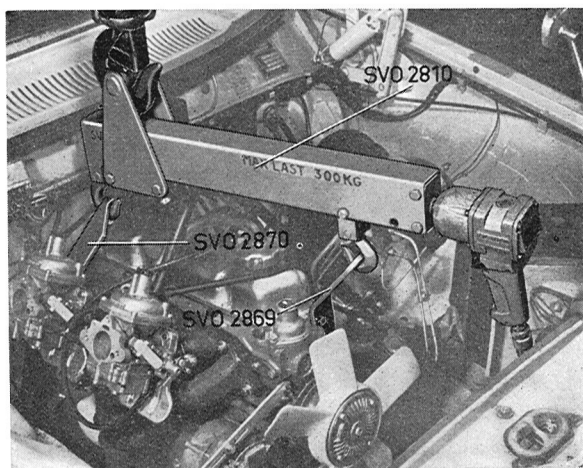

Fig. 2-15. Lifting out engine
12. Drain engine oil. Remove the lower nuts from the engine front mountings. Install the engine hoist unit with lifting beam 2810 and move the block runner to the rear end of the lifting beam, see Fig. 2-15. (Use a nut puller for this adjustment).